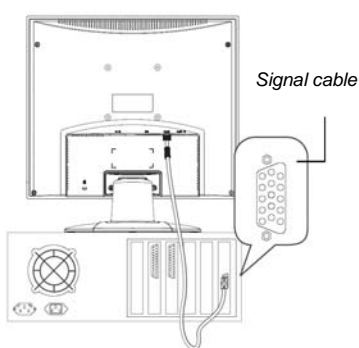

Figure 2a. Connecting the monitor to the PC
2. Connect the 15-pin signal cable to the monitor and The PC (see fig. 2a)